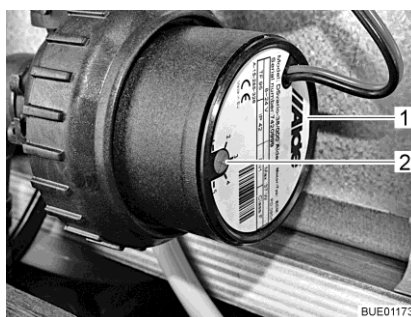

Fig. 160 Speed reduction
The rotational speed of the circulating pump can be set with the control knob (Fig. 160,2). At a lower rotary speed, the operating sounds of the pump are quieter.
The control knob is located on the circulating pump (Fig. 160,1).
- Turn the control knob (Fig. 160,2) in an anticlockwise direction. The output is reduced.